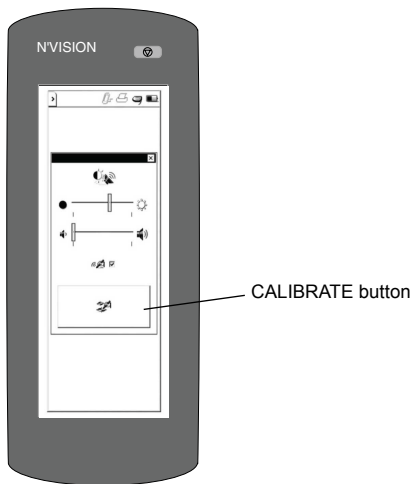

Figure 52. *Calibrating the display.*
- Press and hold the PROGRAMMING (P) key while the programmer is powering up.
- From the slider bar, select the SETTINGS button (), then select the CALIBRATE button (Figure 52 on page 97).